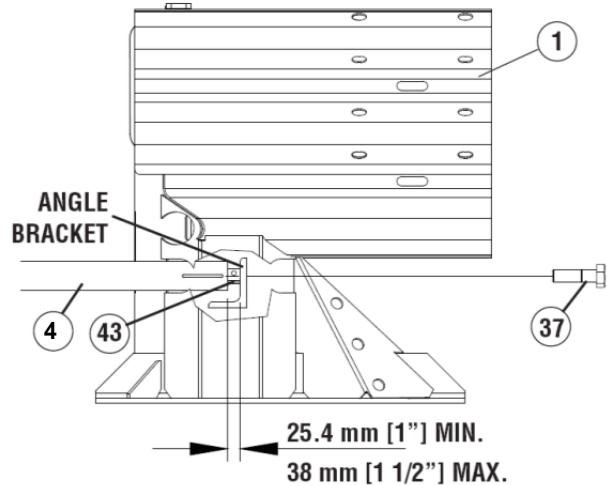

FIGURE 6
Ensure the Spacers (Item 43) are placed around the bolts (Item 37) inside the window in the Backup. Snug the bolts so the Shaper Rails don't move when the system is lifted. Once the system is placed, the bolts can be loosened 1/2" and the front of the system pulled out if more slack is desired (See Figure 6).
Remove the Spacers (Item 43) and tighten 1" x 3 1/2" bolts in the rear of the Shaper Rail Assembly (See Figure 6).
- Tension Shaper Rail Bolts Tighten (See Figure 6)